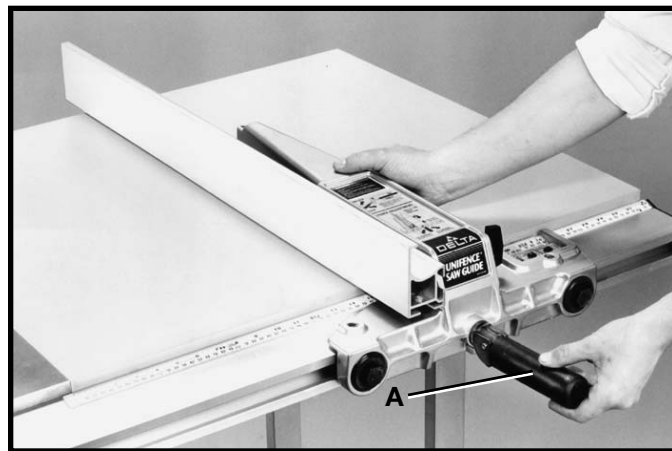

Fig. 112
4. To move the fence along the guide rail, simply lift up clamp lever (A), as shown in Fig. 112, slide fence to desired position on the rail, and push down on clamp lever (A) to lock fence in place.